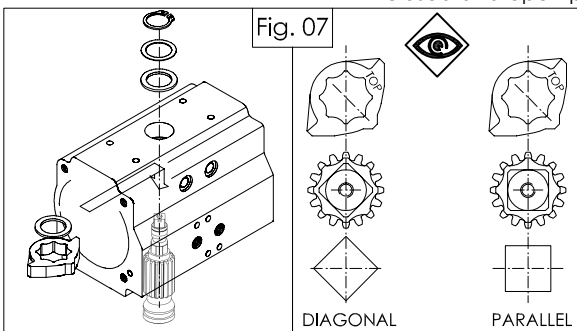

Fig. 07
- Insert partially the drive shaft (23) in the body (26), install octi-cam (22) in the correct position as shown in figure 07 related to the bottom and top of the drive shaft. and rotation of the actuator when energised and install internal thrust bearing (05). Insert completely the drive shaft in the body.
- Fit external thrust bearing (05), thrust washer (04) and then external circlip (03) using snap ring pliers.